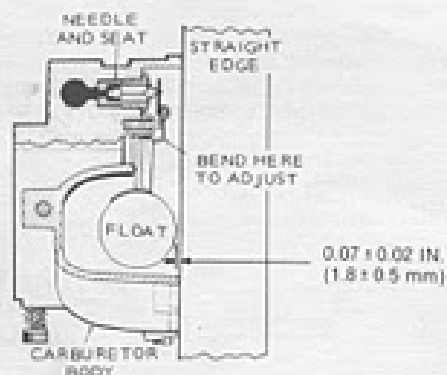

FIGURE 13. CARBURETOR FLOAT SETTING
4. Invert the carburetor and check the float setting (see Figure 13). The float should have a  $0.07 \pm 0.02$  inch ( $1.8 \pm 0.5$  mm) clearance from the machined mating surface (without gasket). Bend the float tab as required.
5. If it is necessary to reset the float level, loosen the screw near float valve axle (pin) and bend the float arm near float valve axle (pin) to position float flush with top edge of carburetor float bowl. See Figure 13.